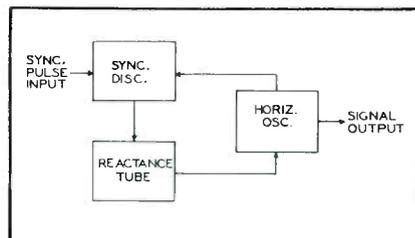

Figure 1. Block Diagram of the Stages in a Reactance Tube AFC System.
A. Reactance-Tube AFC System. A block diagram of this circuit is shown in Figure 1. It consists of a sync discriminator, a reactance tube, and the horizontal sweep oscil-